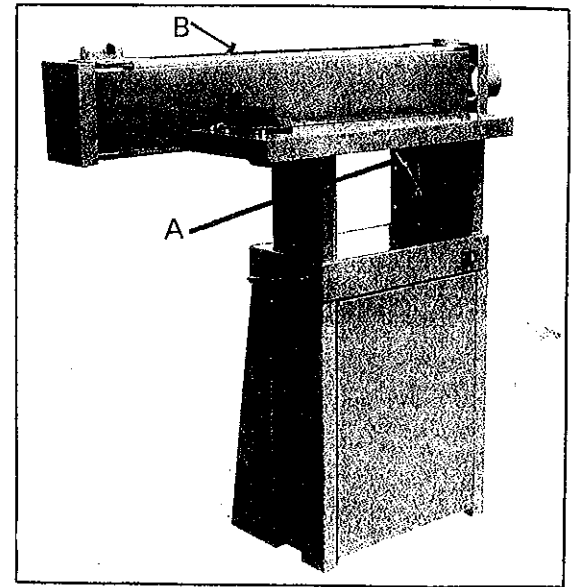

Fig: 4
1. SANDING TABLE CAN BE ADJUSTED 90° - 180°, SEE FIG. 4
2. ADJUST CLAMP HANDLE (B) AT DESIRED TO CHANGE NEW BELT. SEE FIG. 4
3. LOOSEN ANGLE LOCK KNOB (A) TO SET AND TIGHTEN THE ANGLE